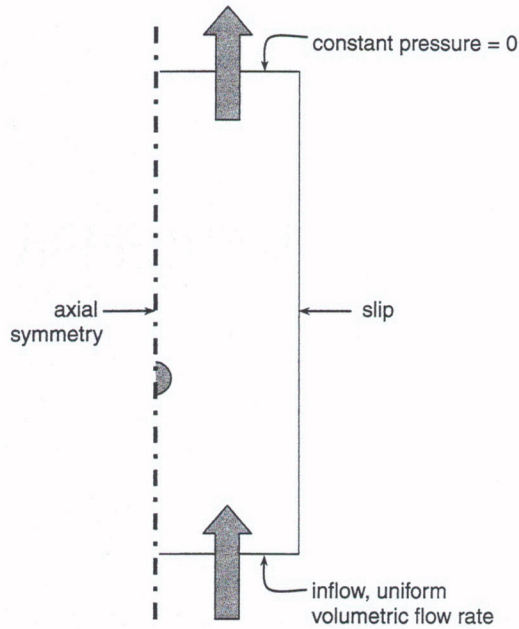

Figure 10.20
18. Using a numerical simulator [5, 27], calculate the drag coefficient as a function of the Reynolds number for flow around a sphere. The flow is solved most easily in axisymmetric mode with a flow domain resembling that in Figure 10.20. Compare your results with experimental data.